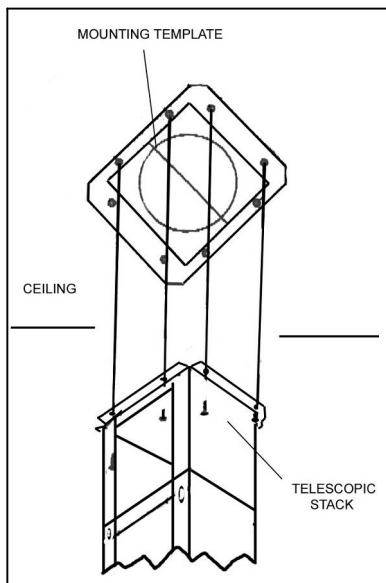

Figure 2
1. Mark centerlines of cook top or range on ceiling above. Use centerlines marked on ceiling to position the mounting template as shown in Figure 2.